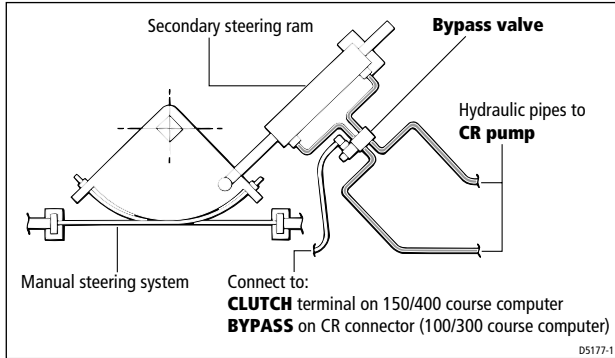

Figure 8: Connecting the bypass valve
2. Install the solenoid-operated bypass valve across these pipes (as shown in Figure 8).